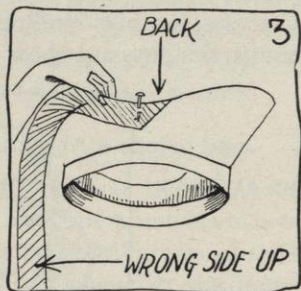

FIG. 3.
- (1) Read and follow Section 1 a through d in Job 15 (page 63).
- d. If the measurement that is written down in Section b (3) is not any longer than the true bias that is folded over in Section c (or already cut) use a true bias; but if it is from 1 to 6 inches longer, then you must fold a long bias, as described in Section 5 or 6 of Job 15 (see Figures 3, 9 A and 9 B of that same job, page 64). *If it is more than 6 inches longer, then instead of folding a long bias, you must use two true bias strips.*
- a. Cut a bias of material that is the length of the measurement you wrote down in Section 1 b (3), and that is $1\frac{1}{2}$ inches wide. Read and follow Job 15, either Sections 2 and 3 for a true bias (page 64) or Section 5 or 6 for a long bias (page 65), and see Figures 3, 4, or 9 A and 9 B of that same job.
- a. Pin one end of the bias, wrong side up, to the edge of the brim on the side that will show most (see Figure 3). In a drooping brim the top facing shows most. The edge of the bias should be even with the edge of the brim. For a bias with one seam, be sure that it will be pinned so that the center of the bias will be at direct back, when the binding is finished. For a bias with two seams, be sure the seams will be an equal distance from direct back, on both sides of the brim.